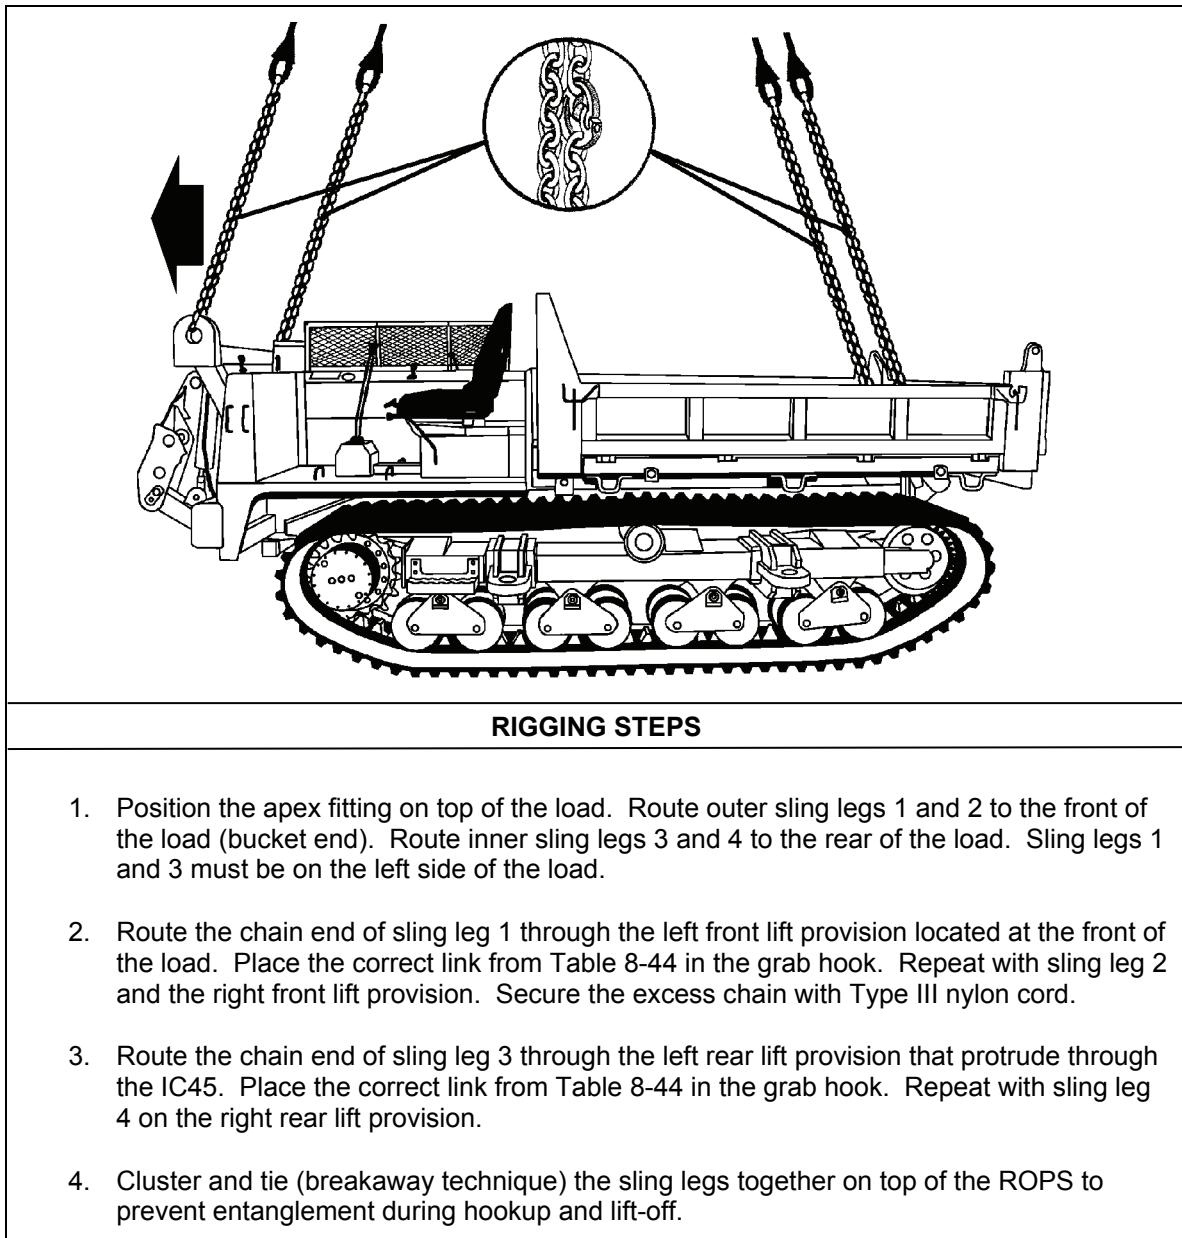

Figure 8-44. IC45 Crawler Carrier
- **Rigging.** Rig the load according to the steps in Figure 8-44.